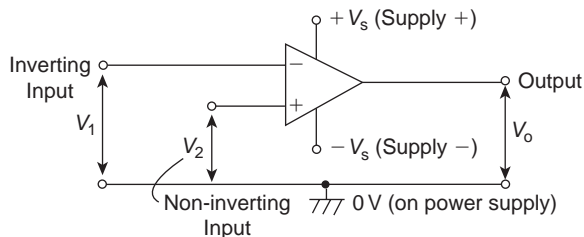

Figure 21.1
- (iii) a very low output impedance, around 100Ω , such that its output voltage is transferred efficiently to any load greater than a few kilohms. The **circuit diagram symbol** for an op amp is shown in Fig. 21.1. It has one output, V_o , and two inputs; the **inverting input**, V_1 is marked $-$, and the **non-inverting input**, V_2 , is marked $+$